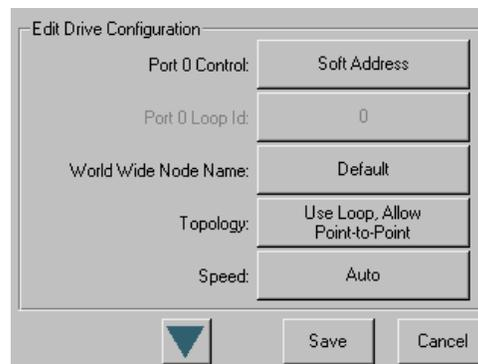

Figure 3-12: Edit FC Drive Configuration (Set Values) Screen
4. Press the **Set Values** button to the right of the tape drive you are changing. The Set Values edit screen (Edit Drive Configuration) is displayed (Figure 3-12).